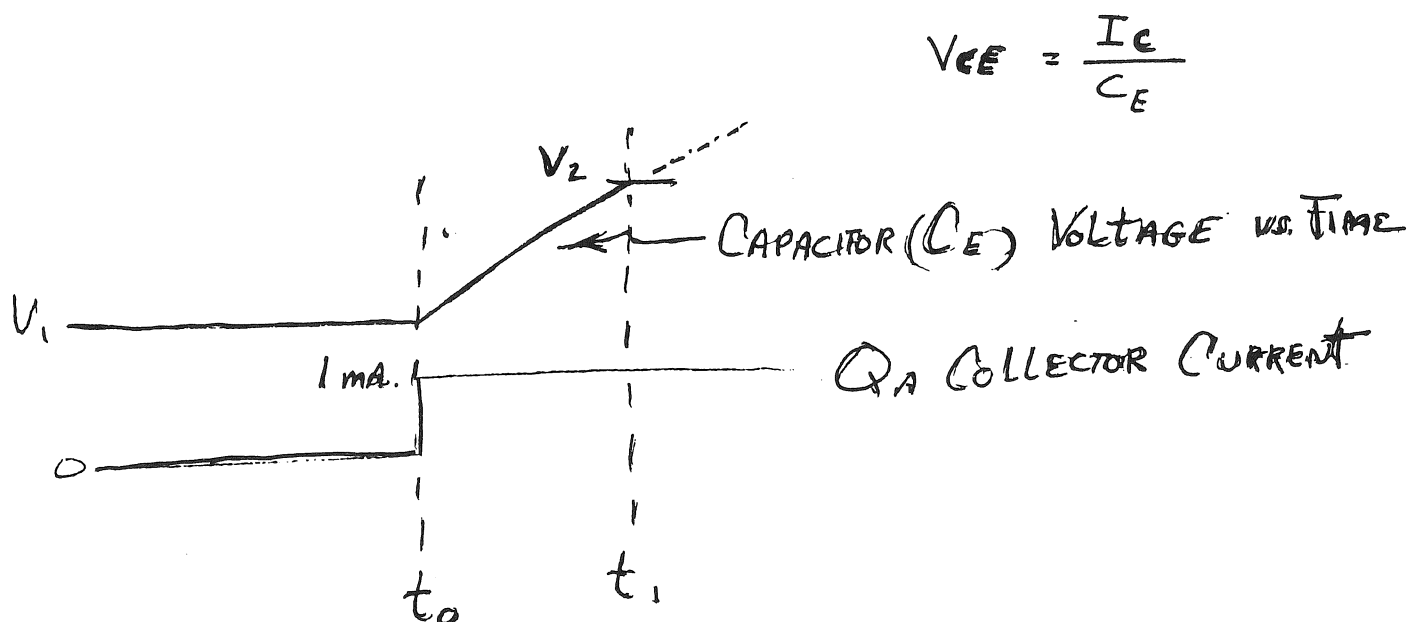

FIGURE 3-10
3.4.6.3 Current Source - Capacitor C(E) is the main timing element of this regulator. The constant collector current from Q(A) causes C(E) to have a linear rate of rise of voltage (see Figure 3-10).